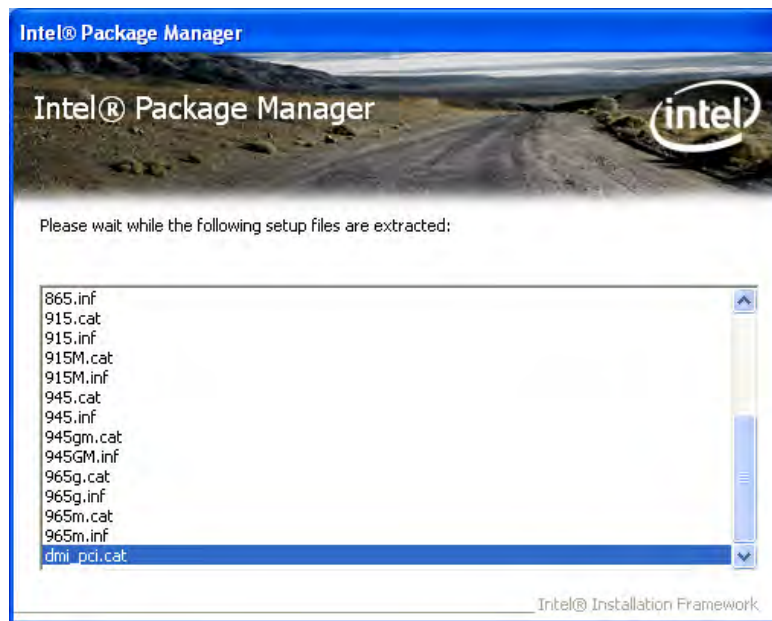

Figure 6-3: Chipset Driver Screen
Step 4: The setup files are extracted as shown in **Figure 6-3**.